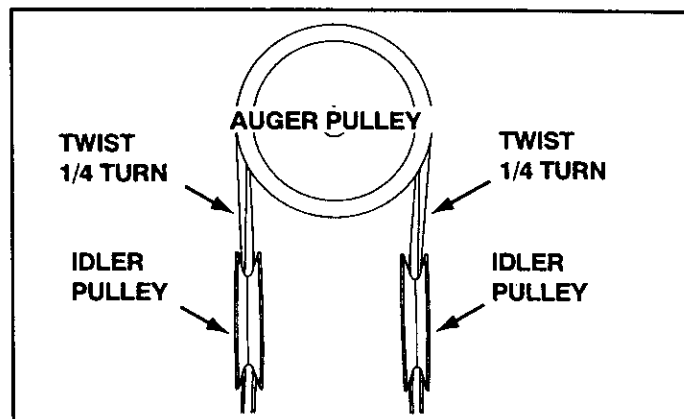
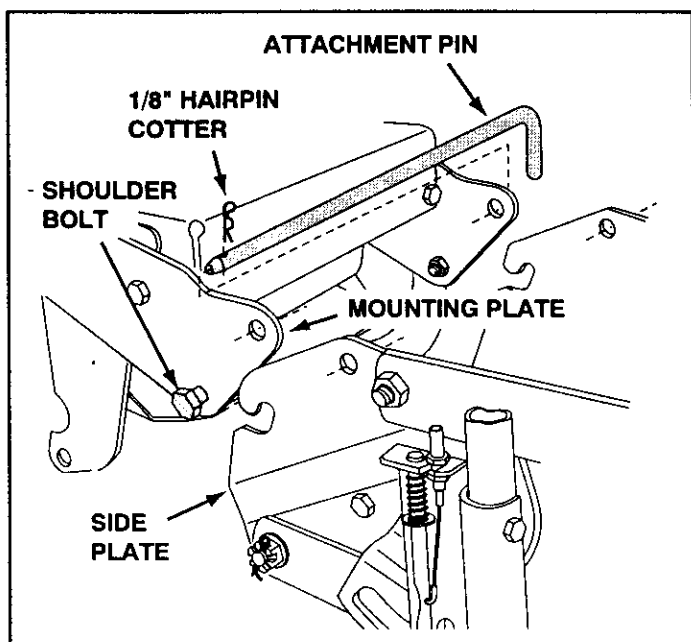

FIGURE 30
FIGURE 29 RIGHT SIDE VIEW
- To ease the assembly of the auger drive belt, delay the installation of the attachment pin shown in figure 29 until you have assembled the belt as instructed for figures 30 and 31.
- The auger belt comes preassembled to the pulleys on the snow thrower housing. Make sure the belt passes over the top of the auger pulley and then twists 1/4 turn to pass underneath each side idler pulley. The "V" side of the belt must mate with the grooves of the pulleys. See figure 30.
- Lift the front of the snow blower to align the holes in the mounting plates and the side plates. From the left side of the tractor install the attachment pin through the holes, securing it with the 1/8" hairpin cotter. Refer back to figure 29 on page 15.